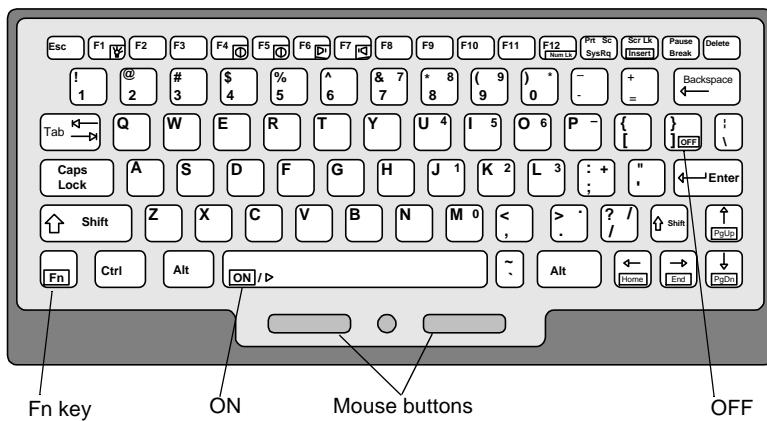

Figure 3.11 Laptop Keys
- 3 Press FN + ON and hold it for one second. The the FN key is located on the bottom row in the lower left corner of the keyboard, and the ON key is located on the space bar. (See Figure 3.11).
If the computer does not start up, press and hold both mouse buttons (Figure 3.11) for at least 10 seconds. Release the buttons to restart the computer.